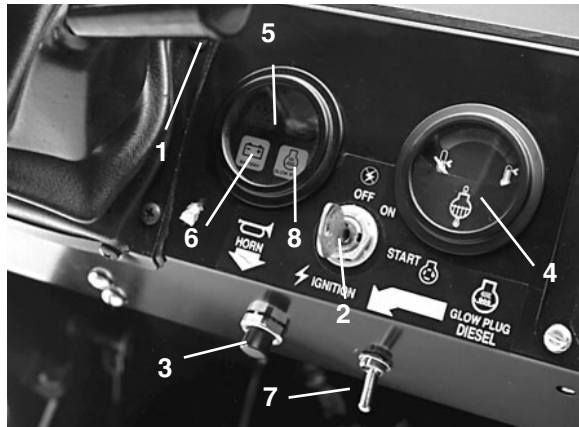

Figure 19
Tilt Steering Lever (Fig. 19)—Lever on right side of console allows steering wheel to be adjusted for operator comfort.
Coolant Temperature Gauge (Fig. 19)—Registers coolant temperature in engine. Operates only when ignition switch is in On position.
Horn Button (Fig. 19)—Pressing button activates horn.
Engine Low-Oil Pressure Light (Fig. 19)—Light glows if engine oil pressure drops below a safe level while engine is running. If light flickers or remains ON, stop vehicle, turn off engine and check oil level. If oil level was low, but adding oil does not cause light to go out when engine is restarted, turn engine off immediately and contact your local TORO distributor for assistance.
Glow Plug Switch and Indicator (Fig. 19)—Use to preheat engine cylinders prior to cold engine starting procedures—cylinders are preheated automatically during warm engine start operation. For cold starting, push switch lever upward and hold while watching indicator. Indicator will glow orange when the glow plugs are activated. Length of time necessary to preheat cylinders should be determined by atmospheric temperature; refer to Starting /Stopping Engine, p. 24.
Ignition Switch (Fig. 19)—The ignition switch, used to start and stop the engine, has three positions: OFF, ON /Preheat and START. Rotate key clockwise—START position—to engage starter motor. Release key when engine starts. The key will move automatically to the ON position. To shut engine off, rotate key counterclockwise to OFF position.
Charge Indicator (Fig. 19)—Illuminates when battery is being discharged. If light illuminates during operation, stop vehicle, turn off engine and check for possible causes, such as alternator belt.
5. When temperature is below 15° C (60° F), push glow plug switch upward to ON position (Fig. 19) and hold for suggested interval.